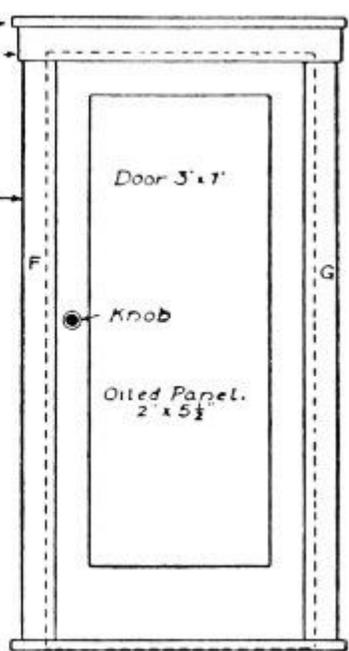
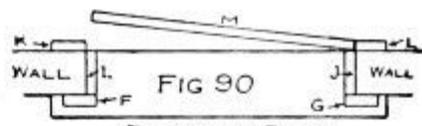

FIG 89 FRONT DOOR
FIG 90
**The Door Trim** (Figs. 89, 90, and 91) is put in place the same as the window trim, but instead of placing the door in the centre of the wall, it should be set flush with the inside trim (see *K*, *L*, and *M* in plan, Fig. 90), and is hinged by means of a linen strip glued to the edge of the door *M* and strip *L*. The door-jambs are cased with strips *I* and *J*.
Make the door casings from the same material, cutting the strips the shape and size of those used for the outside doors (Fig. 89). It is not advisable to hang inside doors, as they are easily broken off, and seldom work satisfactorily.
Paint the front door on both sides with white enamel or white lead, with the exception of a panel in the centre, which should be oiled as shown in Fig. 89. This will give the appearance of a white enamelled door with a mahogany panel set in it.